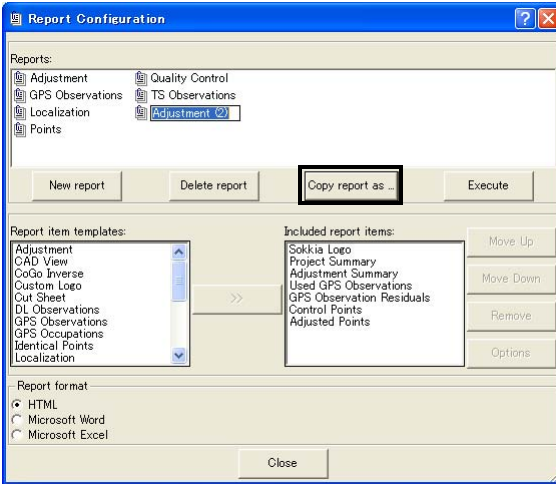

Figure 7-14. Copy Selected Report
1. Select the desired report in the *Reports* panel and click **Copy report as**. A configuration with the same items as the original report is added to the *Reports* window (Figure 7-14).